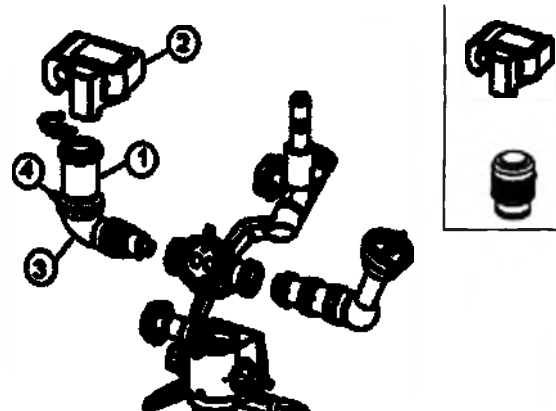

Fig. 31
13.10 Installation of Canon, Nikon and Sony DSLR cameras (fig.31):